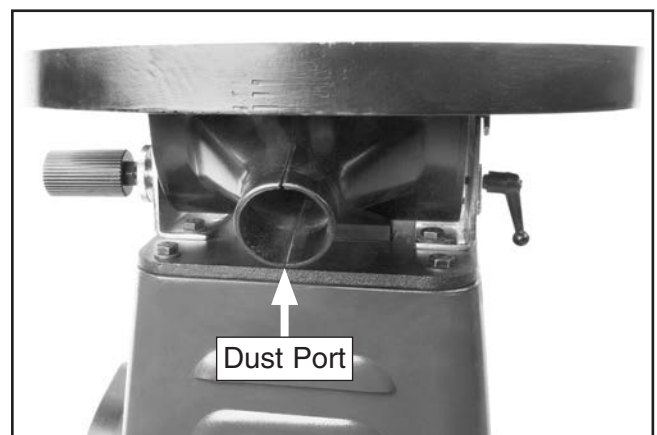

Figure 11. Dust port.
1. Fit a 2.5" dust hose over dust port shown in **Figure 11**, and secure in place with a hose clamp.